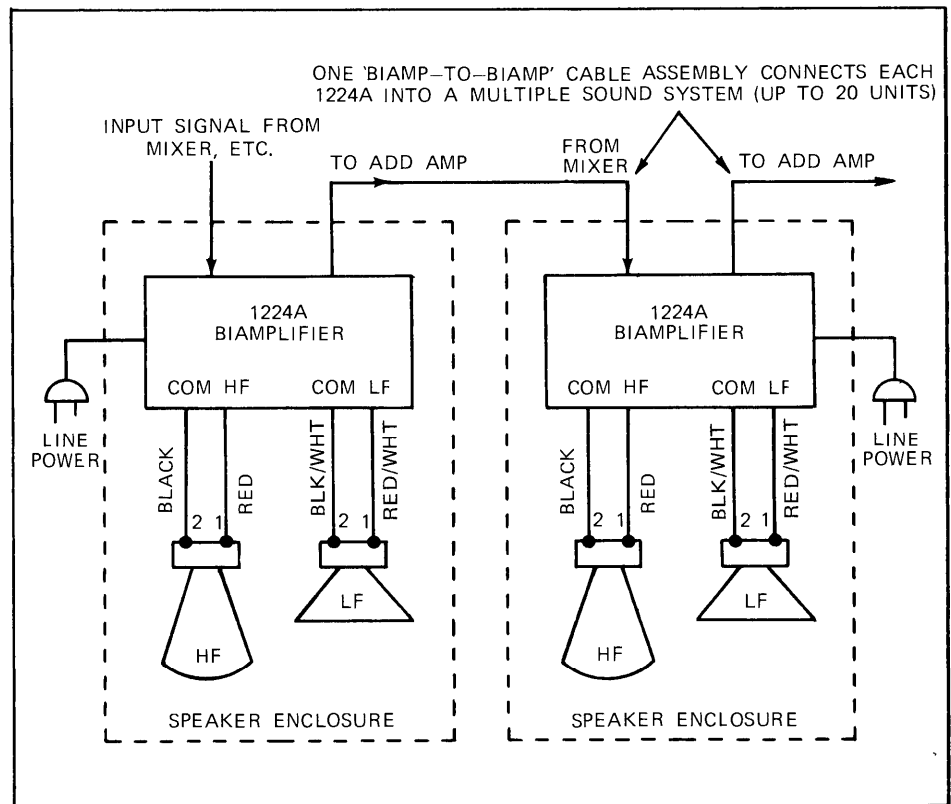

Figure 3. Speaker Hookup and 1224A Interconnections
5. Install supplied speaker wires on appropriate speaker terminals and biamplifier terminals (see Figure 3). Note that minimum speaker impedance is 8 ohms.
An interconnecting cable with XLR3 connectors must be used to connect an additional 1224A into the sound system. Up to 20 of the 1224A biampifiers may be connected into a single sound system in this manner. Speaker hookup and parallel multiple system interconnections are shown in Figure 3. The input signal cable is plugged into the FROM MIXER jack. The next 1224A is connected in parallel by plugging in the provided interconnecting cable into the TO ADD AMP jack of the first 1224A, and into the FROM MIXER jack of the second 1224A. Continue this interconnection method to combine as many 1224A biampifiers as required (up to 20 units).